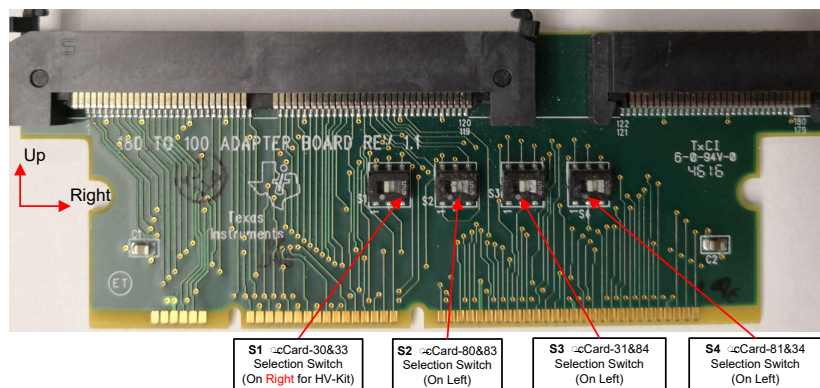

Figure 2-3. TMSADAP180TO100 Adapter and Switches Setting
- Make sure that switches **TMSADAP180TO100** are set as described below or shown in **Figure 2-3**.